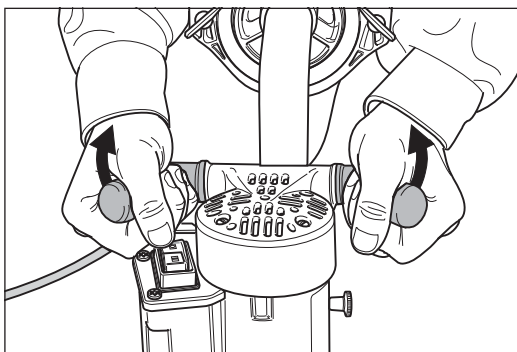

Fig. 9 Tilt the machine backwards slightly before starting and switching off the machine.
- **Always** tip the machine backwards slightly (fig. 9) before starting the machine so that the sanding disc is raised off the floor!
- 1 Tip the machine backwards slightly (fig. 9)!
Always tip the machine backwards slightly (fig. 9) before switching off the machine so that the sanding disc is raised off the floor!
- 1 Tip the machine backwards slightly (fig. 9)!**